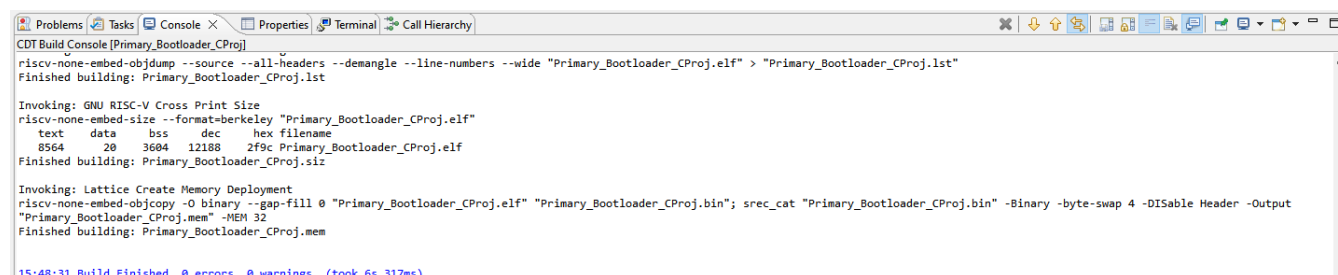

Figure C.29. Completing Process
20. Wait for the process to complete to 100%. After completion, the message shown in Figure C.29 appears on the console.